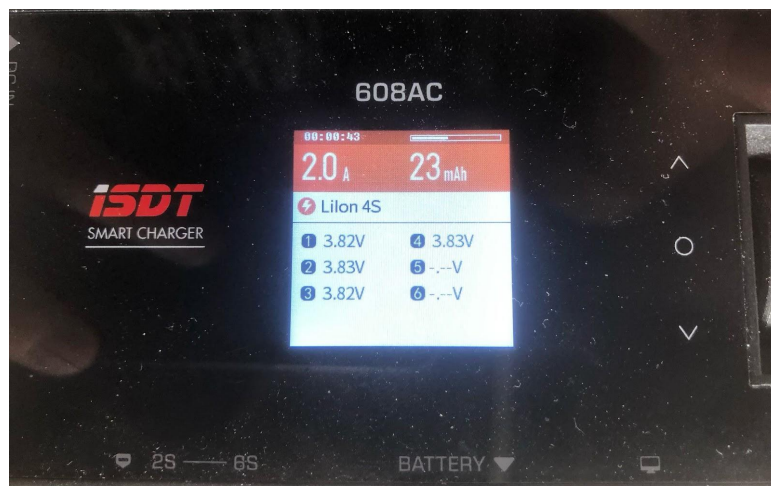

Figure 7: iSDT 608AC showcasing Drone Individual Battery Balancing & Charging
4.6.2. Align the Pogo Pin connectors (male) on the battery with the female counterparts on the docking station's charging interface. The 2-pin connector facilitates power transfer (5A charging current), while the 5-pin connector enables SoC data communication with the iSDT 608AC via the docking system, ensuring closed-loop charging, as shown in Figure 7.